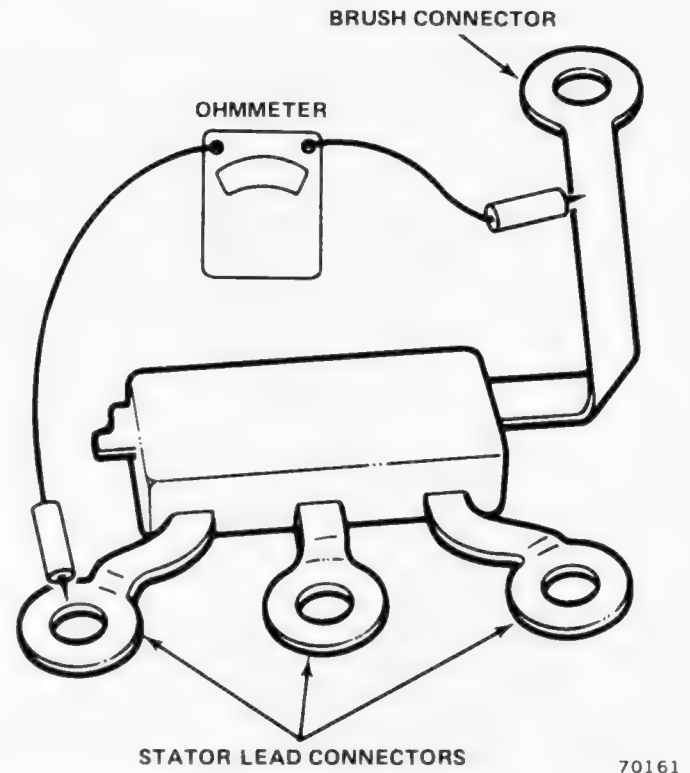

Fig. 1E-9 Testing Diode Trio
- (1) Connect ohmmeter to grounded heat sink and one of three terminal tabs (fig. 1E-10). Note reading.
- (2) Reverse lead connections to grounded heat sink and same terminal tab. Note reading.
- (3) Replace rectifier bridge if both readings are the same.
- (4) Repeat steps (1) and (2) for each of the other two terminal tabs.
- (5) In the same manner, test between insulated heat sink and each of three terminal tabs.